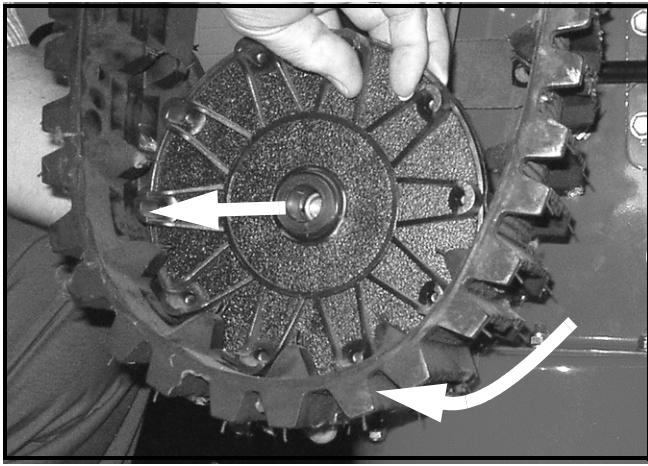

FIGURE 3
- Lifting the track up and away from the frame, remove both track idler wheels from the idler axle and tracks. See Figure 3. Do not remove the tracks at this time.